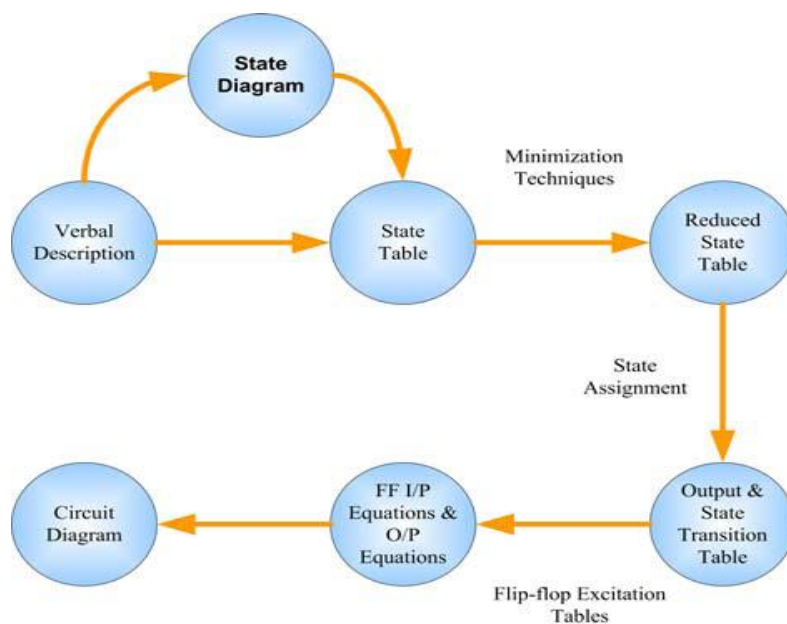

Figure 1: Sequential Circuit Design Steps
- □ The design of sequential circuit starts with verbal specifications of the problem (See Figure 1).